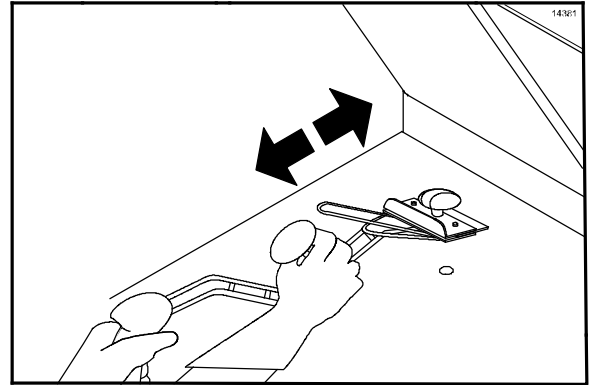

Figure 82
10. Scrape the **lower** grill surface with the grill scraper, from front to back. (See Figure 82.)